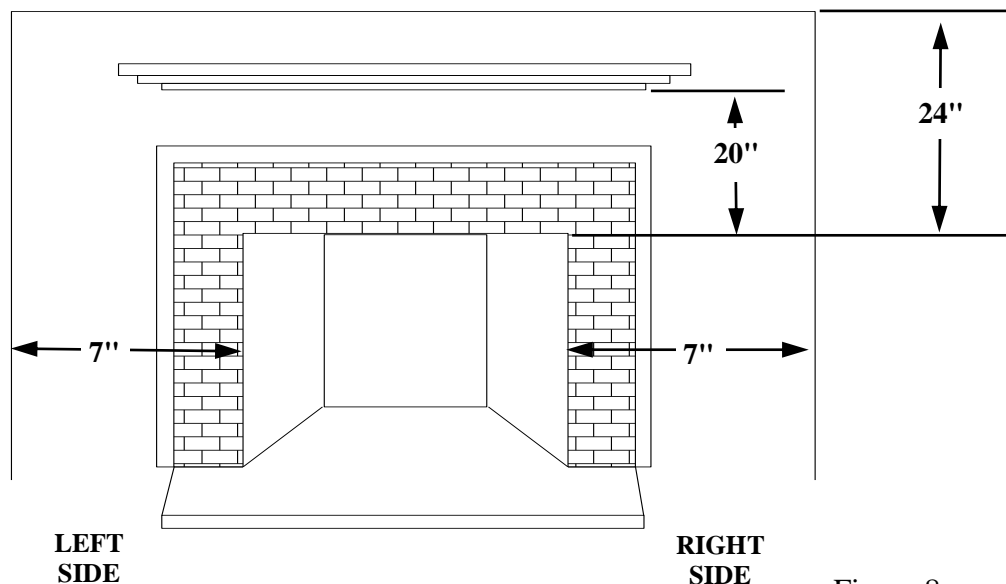

Figure 8
- (1) Model 34 Contemporary may be installed in a masonry fireplace. The **minimum fireplace dimension** must be 24" high, 29-1/2" wide, and 12" deep.
- (2) For minimum dimensions for the sidewall and mantel, see Figure 8.
- (3) Center heater in fireplace opening.